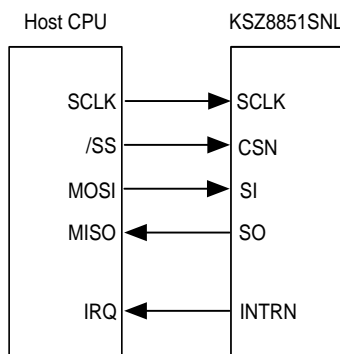

Figure 2. SPI Interface to KSZ8851SNL
The KSZ8851SNL supports SPI interface in the slave mode. In this mode, an external SPI master controller supplies the operating serial clock (SCLK), chip select (CSN) and serial input data (SI) which is sampled on the rising edge of SCLK to KSZ8851SNL device. Serial output data (SO) is driven by KSZ8851SNL on the rising edge of SCLK to external SPI master device. The falling edge of CSN starts the SPI operation and the rising edge of CSN ends the SPI operation. The SCLK stays low when SPI operation is idle. Figure 2 shows the SPI interface connection for KSZ8851SNL.